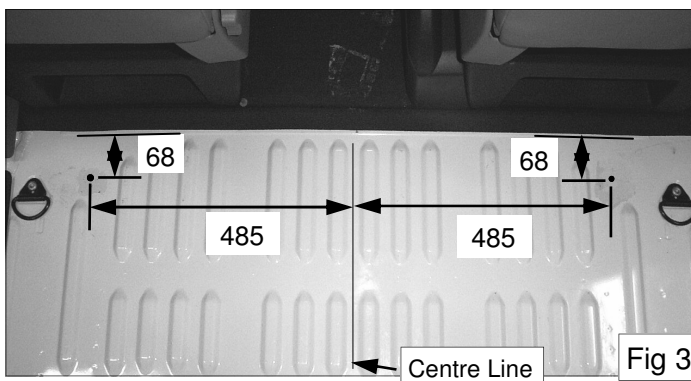

Fig 3
1. Measure from centre of floor outward 485mm in both directions. (Fig. 3)
2. From edge of the transverse rib (just behind the edge of the rubber mat) measure back 68mm. (Fig. 3)